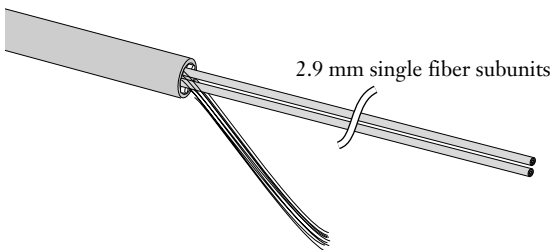

Figure 10
- Trim the rip cord and filler elements flush with the end of the outer jacket (Figure 10).